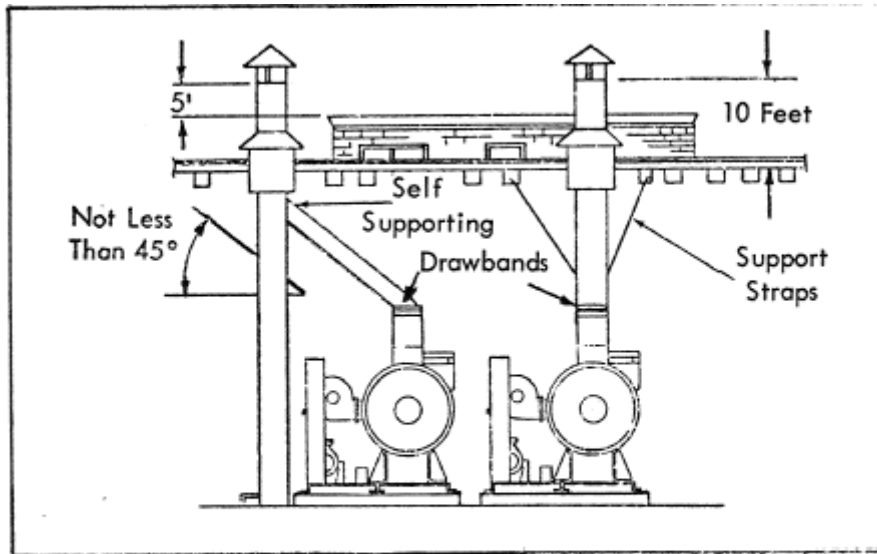
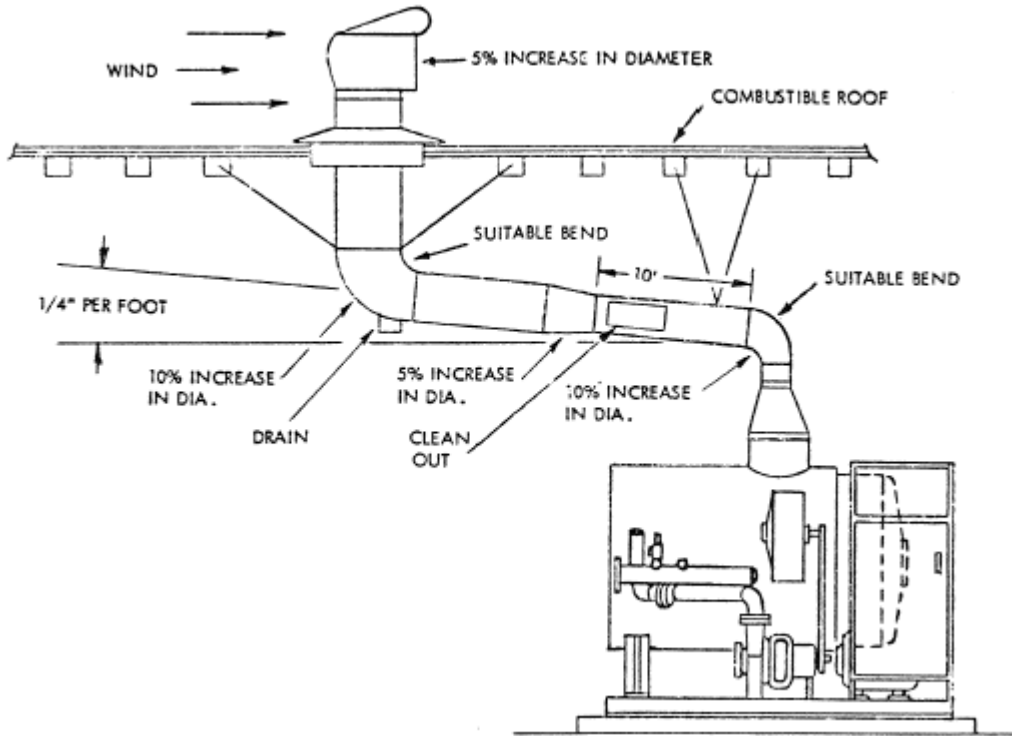

Figure 2, Recommended Stack Installation
Figure 3, Stack Installation With Horizontal Run
7.1 The recommended installation is to have the stack supported independent of the heater and run straight up to the outside with drainage provided at the bottom. If this is impossible, a second choice of stack installation would be for the heater stack to enter the main stack at no less than 45° as illustrated in Figure 2. An alternate to the above installation is illustrated in Figure 3 and discussed in paragraph 7.6.
7.2 A vertical stack should extend through the roof and have provisions for drainage. The heater should not be used to support the weight of the stack. (See Figure 2)
7.5 The stack should be designed with the required bracing, or hangers to be self-supporting. (See Figure 2) A section of the stack should be removable to permit inspection for corrosion and soot buildup. An inspection door or panel may be inserted if removal of a section of the stack will be difficult, the minimum recommended material thickness for stacks and breeching is 14 gauge. Stack connection sizes are shown in Table 3A.
7.6 Horizontal runs should be pitched up 1/4 inch per foot, and the diameter of the pipe should be increased 5% over the preceding pipe diameter at each 10 foot interval in the horizontal run. A 10% increase in pipe diameter over the preceding diameter must be made at each elbow (see Figure 3). Horizontal runs should be provided with a clean out door. Round stacks and breeching are preferred.